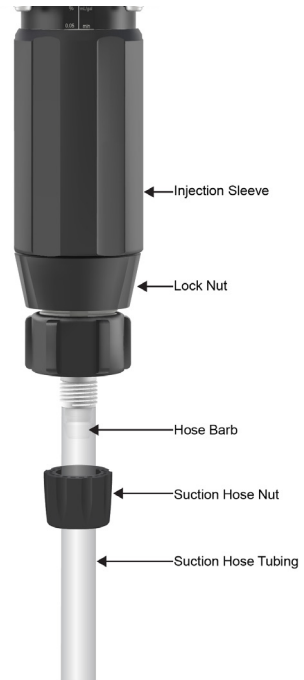

Figure 8 - Suction Hose Connection
- Refer to “Figure 8 - Suction Hose Connection” for reference